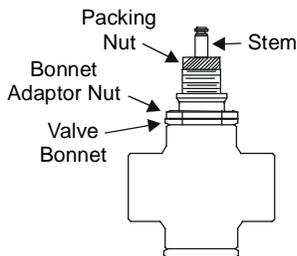

Figure 5: Valve Bonnet Adaptor
3. For VT valves, thread the bonnet adaptor nut (included in the VA-8020-100 kit) onto the valve bonnet shown in Figure 5, and tighten with a wrench until it is snug.